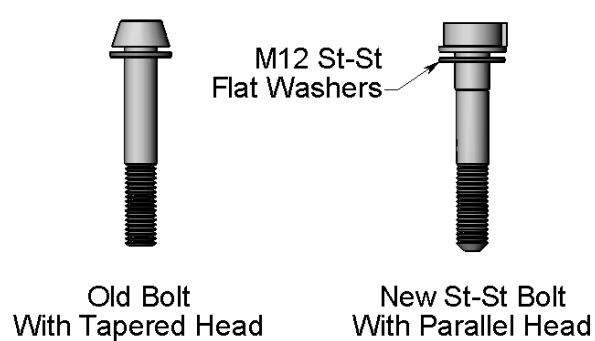

Fig 2
2. The **chamber base** may be assembled around existing duct work. Ref Fig 2
Security bolts must have the modified parallel heads to allow the correct tension of 68 Nm to be applied. Ref Fig 2.